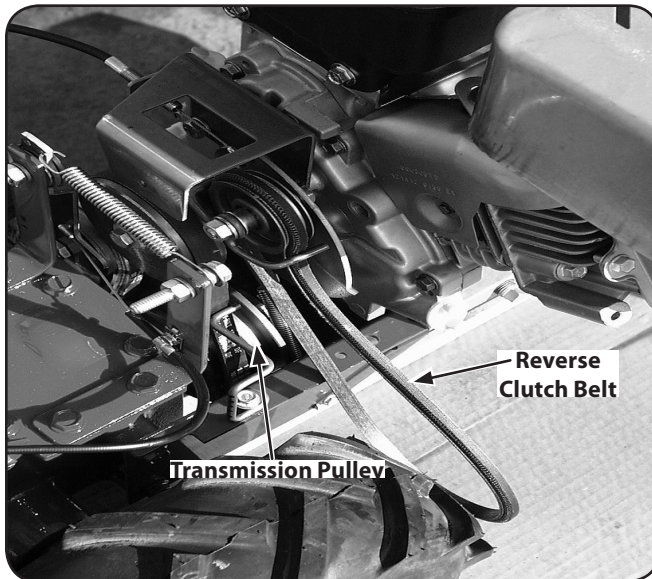

Figure 7-1
3. Move the reverse clutch belt out of the way. You do not need to completely remove the belt. Press the reverse idler pulley inward for slack and then slip the bottom half of the belt completely off the transmission pulley. Pull the bottom half of the belt out of the housing and let it hang off the outside of the tiller. See Figure 7-1.